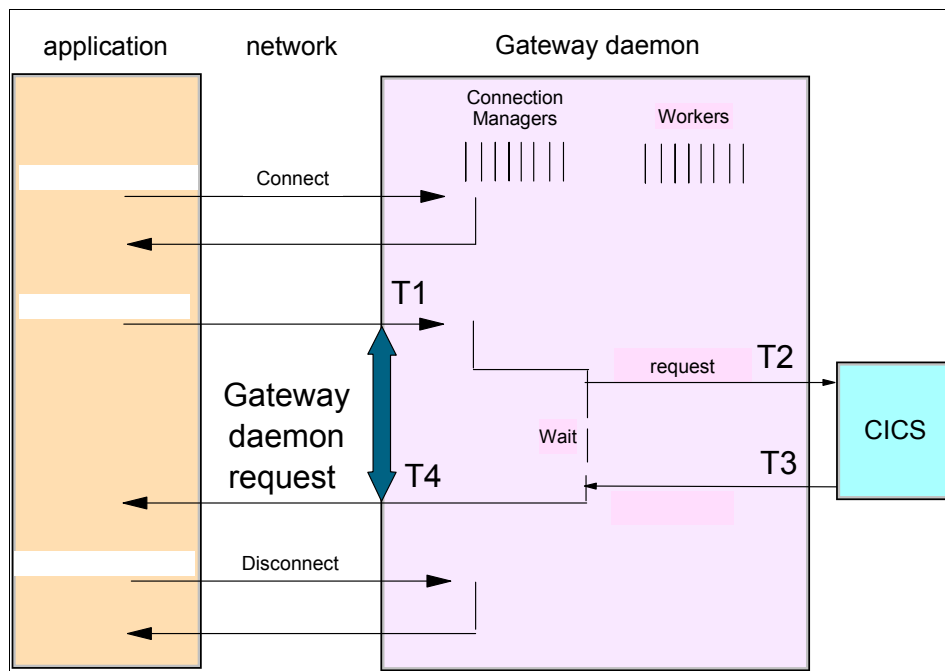

Figure 6-3 The points where time stamps are taken by the exits
- ▶ Method calls are driven when each transaction enters and exits the Gateway daemon (or entry and exit to the CICS TG classes when running in local mode or in a remote application). They are issued at the points E1 and E2 in Figure 6-3.
Table 6-2 correlates the offsets recorded by the monitoring exits in Example 6-4 to the time stamps in Figure 6-3 on page 202.
Offset (Example 6-4)	Time stamps (Figure 6-3 on page 202)